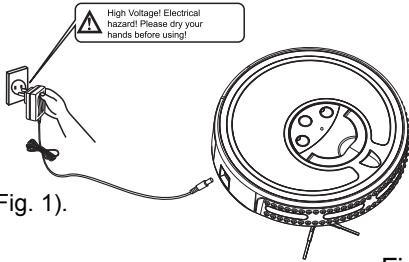

Fig.1
2. Method 1: Turn on the cleaner and connect adapter's output plug to the manual charging socket on cleaner (See Fig. 1).